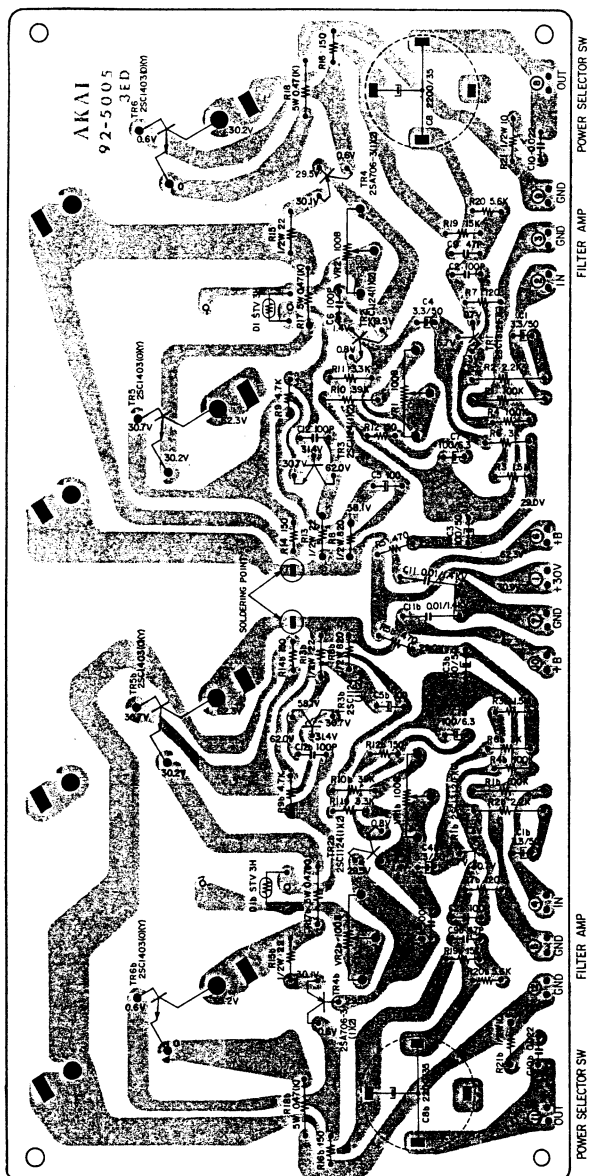

Fig. 43 POWER AMP. P.C. BOARD 92-5005 (Reverse)
- 1) As shown in Fig. 43, remove solder from soldering point of Power Amp. P.C. Board.